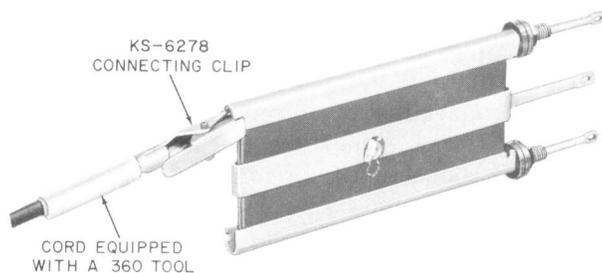

Fig. 13—Connecting to Ferrule of the 18- and 19-Type Resistors
- (a) **Resistors having metal Ferrules:** Connect the KS-6278 connecting clip, as shown in Fig. 13 to one side of the metal ferrule at the top, bottom, or in case of 19-type resistors, the middle.